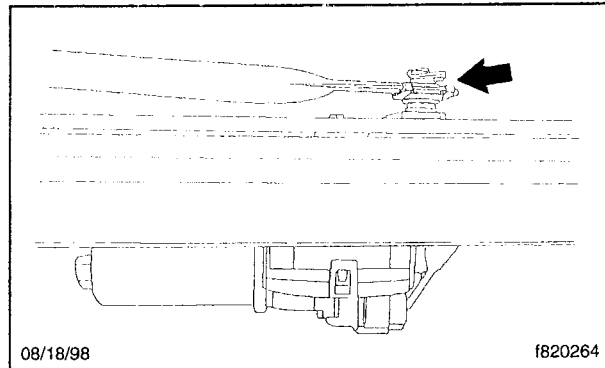

Fig. 5, Windshield-Wiper Mounting Arm and Pivot Shaft Retaining Clip
8. Remove the retaining clip and disconnect the windshield-wiper mounting arm from the mounting-lever pivot shaft. See **Fig. 5**.
12. Connect the mounting arm and pivot shaft to the mounting-lever pivot shaft, and install the retaining clip. See **Fig. 5**.